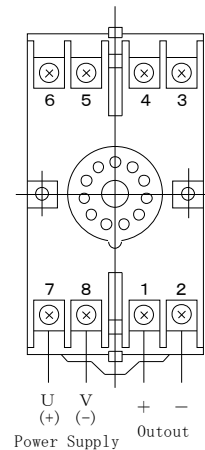

Fig.2
- 2) Make the connections as per the connection diagram **Fig.2**. Use the cables to meet the rated capacity of circuit.